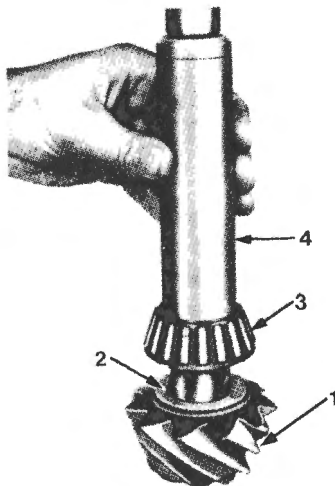

Fig. O-14
- 33 Press rear pinion cone onto the pinion. Fig. O-14.